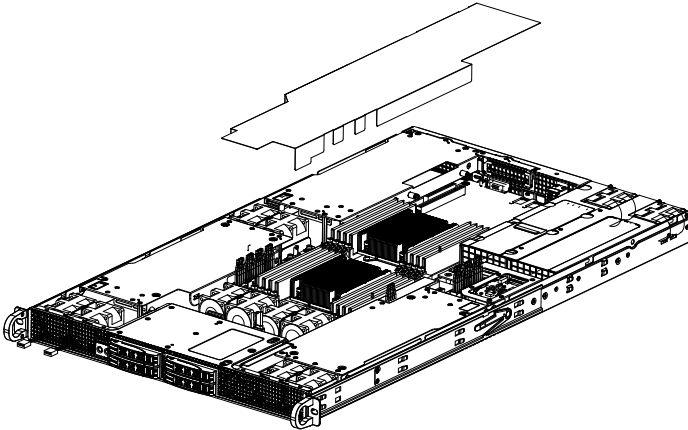

Figure 6-9. Installing the Air Shroud
1. Position the air shroud in the chassis as illustrated in Figure 6-9.